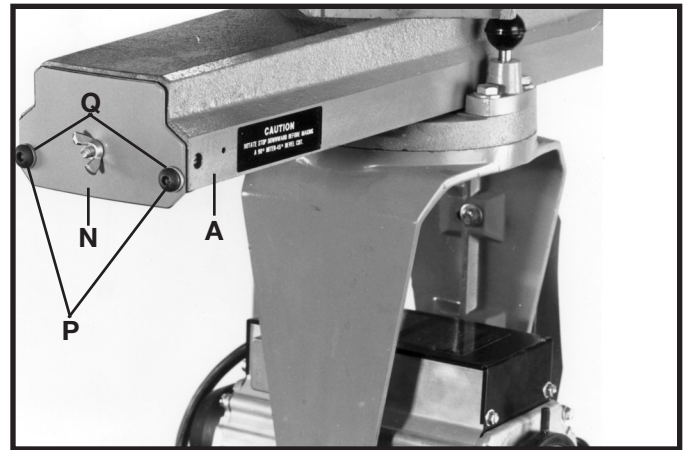

Fig. 12
8. Assemble end cap (N) Fig. 12, to the rear of track arm assembly (A) and fasten with two 5/16-18 x 3/4" button head screws (P) and 5/16" lockwashers (Q) supplied.